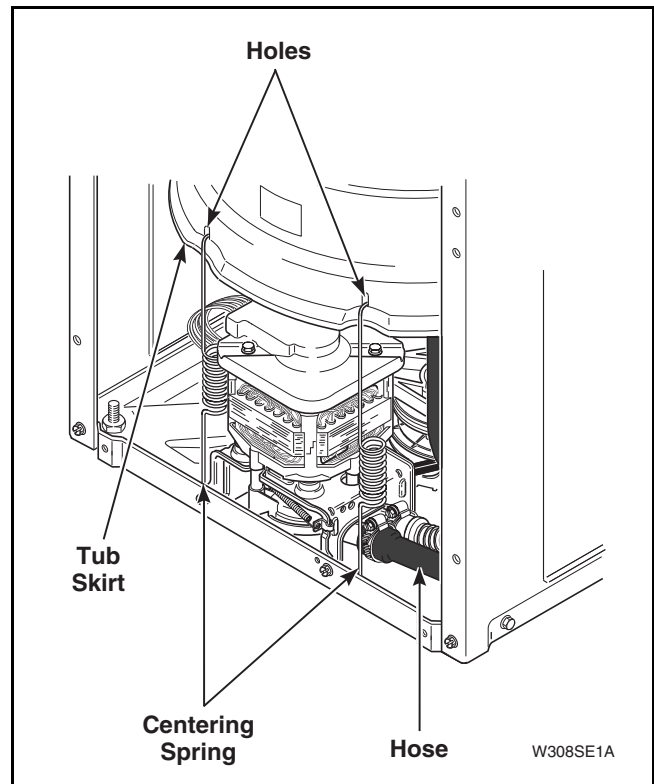

Figure 39
- p. Using No. 321P4 Spring Hook Tool, unhook seven centering springs from lower edge of outer tub. Refer to *Figure 39*.
- g. Using No. 321P4 Spring Hook Tool, unhook seven centering springs from lower edge of outer tub. Refer to *Figure 39*.